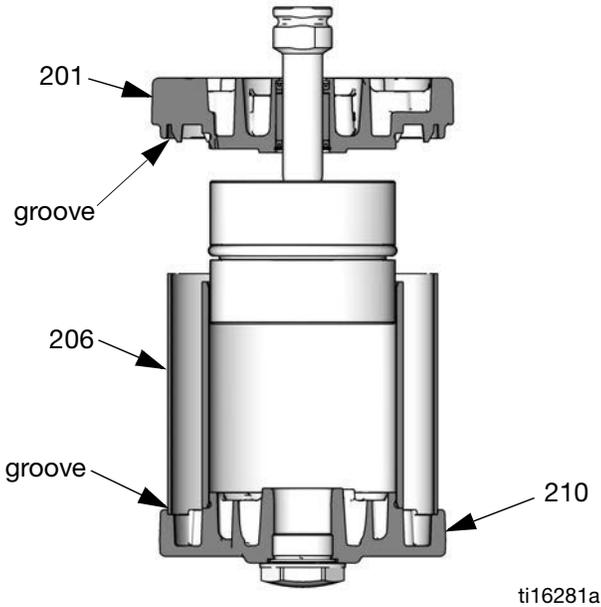

FIG. 19. Align Shield in Grooves on Covers
5. Lubricate and install the o-ring (202*) on the bottom cover (201).
6. Carefully push the threaded end of the rod (218) up through the bottom cover (201).
7. Apply 16G561 adhesive to the threads of the rod (218). Screw the piston (219) onto the rod. Place the piston in a vise with soft jaws and torque to 35-40 ft-lb (47-54 N•m).
8. Lubricate and install the o-ring (204*) on the piston (219).
- See FIG. 19. Carefully place the bottom cover/piston assembly on the cylinder (205), sliding the piston (219) into the cylinder. The manifold surfaces of the top and bottom covers must align. Be sure the shield (206) is in the groove on both the top and bottom covers.